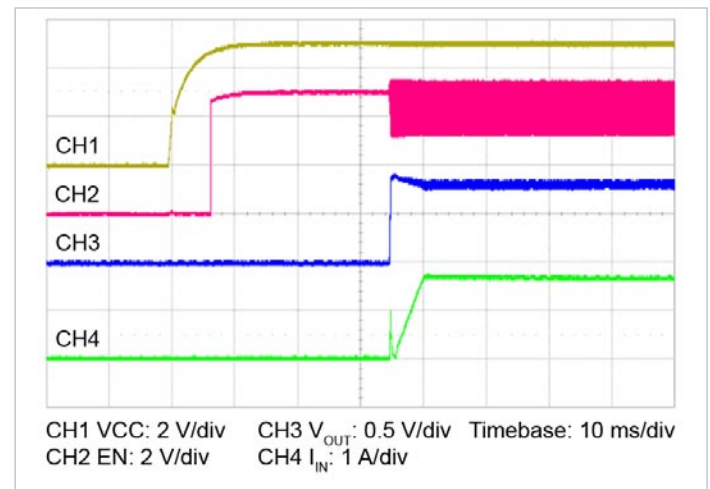

Figure 13 — Start up from application of V_{CC} ; V_{IN} pre-applied $C_{OUT} = 10000 \mu\text{F}$
- **Start up operation (VCC applied after Input voltage. *It is not recommended to start up the VTM in this order*):** In this case the VTM module output will begin to rise upon the application of the VCC voltage (See Figure 13). However, the Adaptive Soft Start Circuit is disabled internal to VTM and start-up current will be unlimited. When VCC applied, EN and CM signal appear after VCC crosses its under-voltage point. TM and output voltage signal appear after delay of T_{ON} time with respect to EN signal. In this mode of start-up, input voltage is applied prior to VCC. So input capacitance is already charged prior to VCC applied. When VCC applied, VTM powertrain generates the output voltage and charges the output capacitance. In this mode of operation inrush is due to the output capacitance. The following diagram shows the power up sequence for such mode of operation. This product requires an external soft start circuit to limit inrush current in this mode of operation. This product does not support the auto-restart feature in fault conditions.